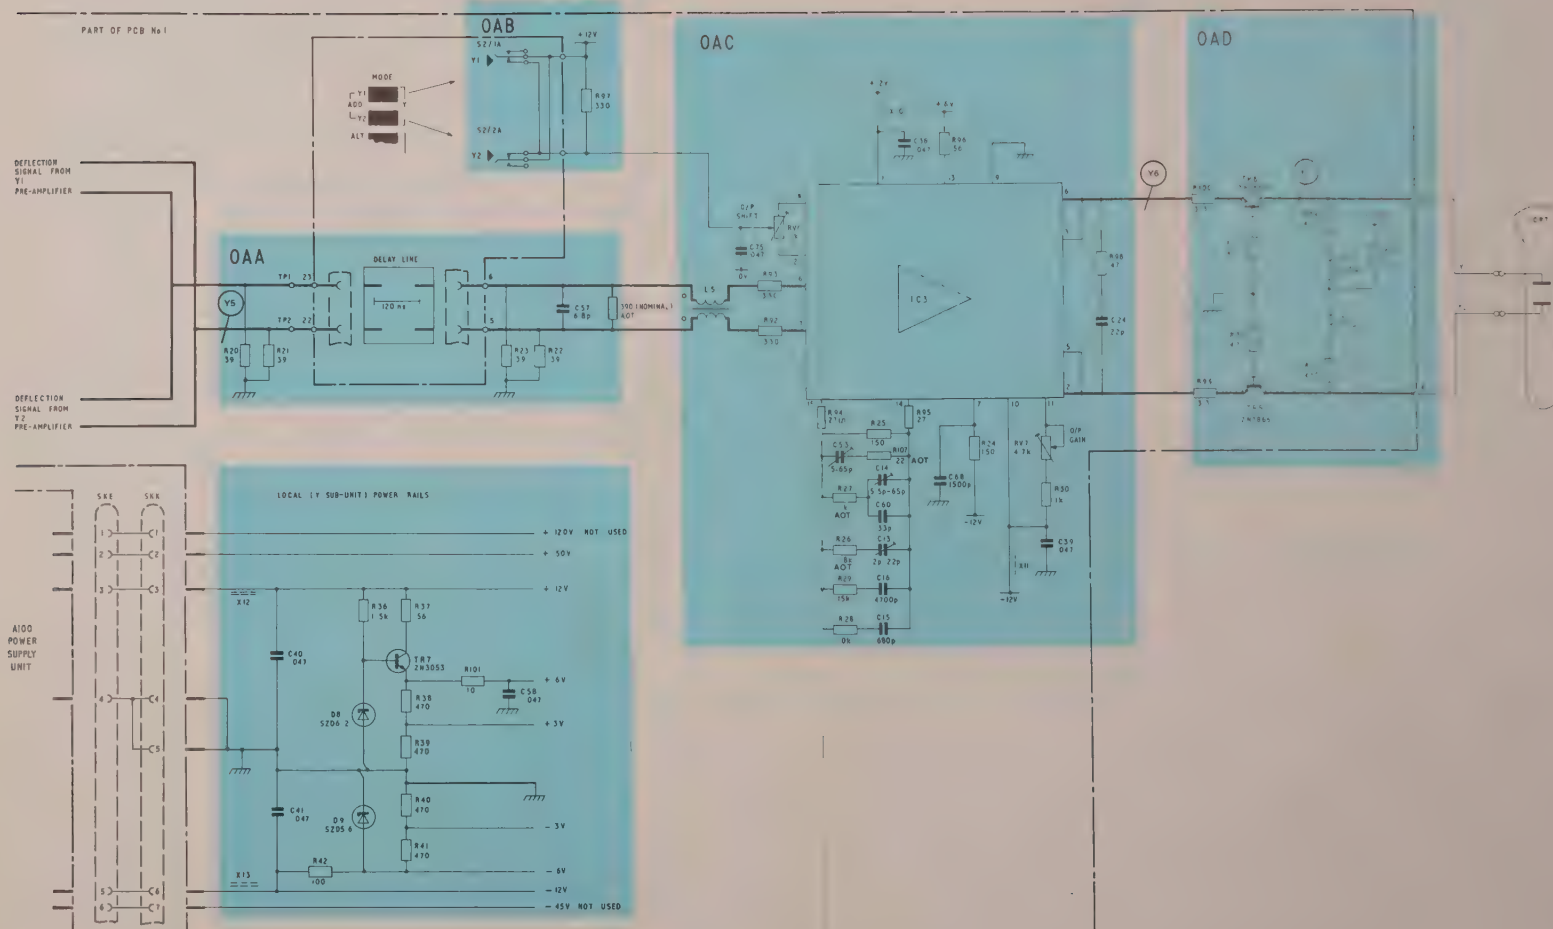

Fig. 9.14 Output Amplifier and Local Supplies (DA1007005)
6. Adjust RV7 (shown on circuit diagram Fig. 9.14) on A101 pcb No. 1 for a 6cm picture.